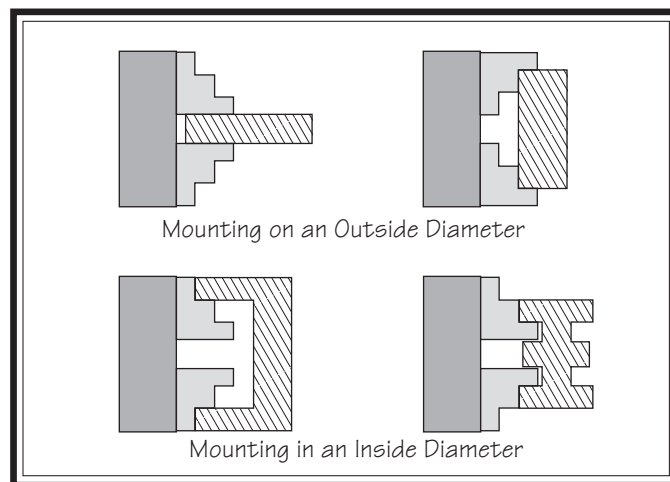

Figure 52. Typical of 3-jaw chuck mounting methods.
3. Use the chuck key to move the jaws and mount the workpiece into the chuck (refer to **Figure 52** for typical mounting methods).